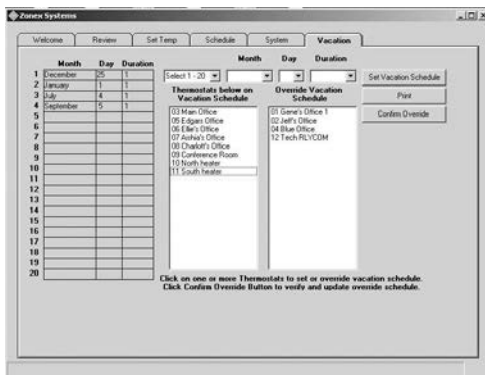

Fig. 27
1. In the **Thermostats below on Vacation Schedule** column, click on each thermostat address that you wish to override. Notice that when you click on an address, it moves to the **Override Vacation Schedule** column (see Fig. 27).